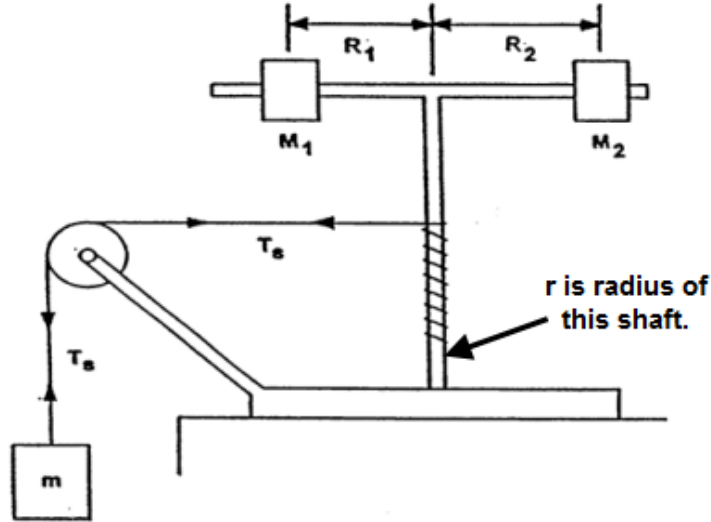

Figure 5.3: Schematic of Experiment
1. Is the tension in the cord Fig. 5.3 equal to mg when the hanging mass drops? Draw a free-body force diagram for the hanging mass and write the equation of motion (Newton's II Law) for it.
2. Susan observed that when mass $m = 500g$ is suspended (see Fig. 5.3), the system acquires very high speed after a few rotations. This can make the experiment dangerous. Trying to reduce the speed of the system, Susan increases the distance of the two masses M_1 and M_2 from the rotating shaft. Does this make sense? Explain.
Make changes to the equipment used in part A of the lab (Fig. 5.3). Remove the spring, the crossbar with the hanging mass and the belt from the motor shaft. Use the long thin crossbar. With one aluminum and one brass mass, set the masses as far apart as possible on the crossbar (**securely fastened** into a depression on the bar). The rotation is only about one point. To make this centre-of-mass coincide with the shaft, one person should hold the apparatus so that the shaft is tipped horizontal and free to rotate. The other person can then move the crossbar back and forth relative to the shaft until the balance point is found. Then clamp it **firmly** to the shaft. A nylon string with a mass on one end is attached to the shaft of the rotational apparatus. The shaft is rotated so that the string *winds around it* until m is close to the pulley. The stop watch should be started simultaneous to releasing the mass m . The stopwatch is stopped at the instant that the system completes n rotations.
In the above formula, m is the hanging mass in Fig.5.3, and r is the radius of the shaft.
4. Set up the experiment as shown in Fig. 5.3 with the balance-point of the cross bar attached to the rotating shaft. Be sure that the screw securing each mass is tightened into an indent on the cross bar.
12. Calculate the expected rotational inertia of two masses using the equation below (see Fig. 5.3).
2. In Fig.5.3, the cord wrapped around the shaft should form only one layer. Which of the following quantities: torque applied to the shaft, angular acceleration of the system, rotational inertia of the system, acceleration of the falling mass, are changed if more than one layer is formed by the cord? Explain why.